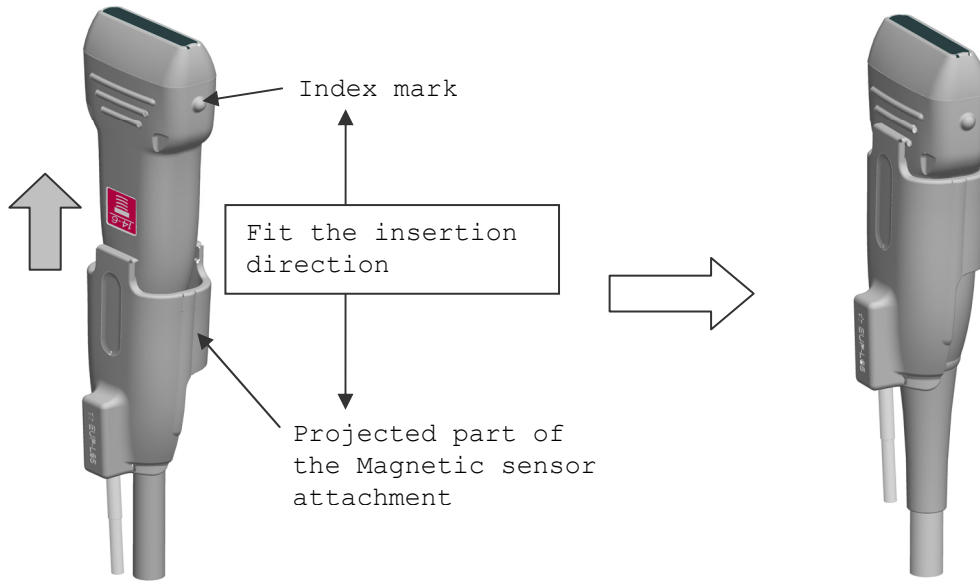

Fig. 5 How to attach the Magnetic sensor attachment
- c) Place the magnetic sensor attachment on the probe as shown in Fig. 5. Fit the projected part of the magnetic sensor attachment in the index mark of the probe.